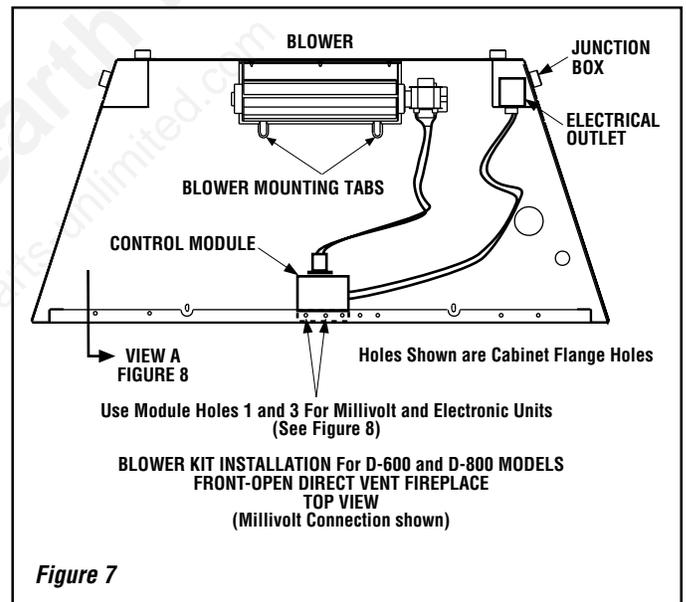

Figure 7
- f** - see **Figure 7** for *D-600 and 800 series units*;